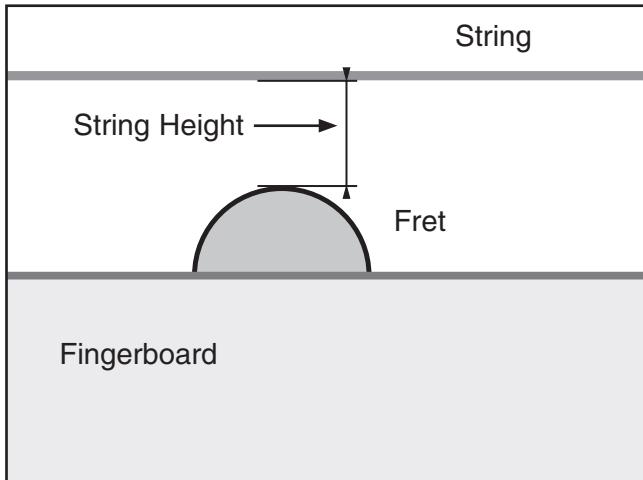

Figure 35. String height measurement.
Correct string height is crucial for maximizing the playability of your electric guitar. The string height is the distance between the top face of the fret and the bottom face of the string (**Figure 35**).
4. Place a capo on the 1st fret and measure the height of each string above the 17th fret as shown in **Figure 35**.